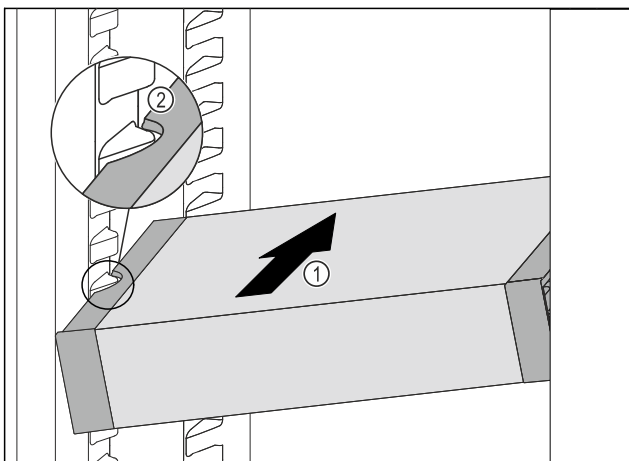

Fig. 194
- ▶ Insert the VarioSafe into the fridge section at an angle *Fig. 194 (1)* until the recesses in the side *Fig. 194 (2)* of the VarioSafe are at the level of the support rib in the fridge section.